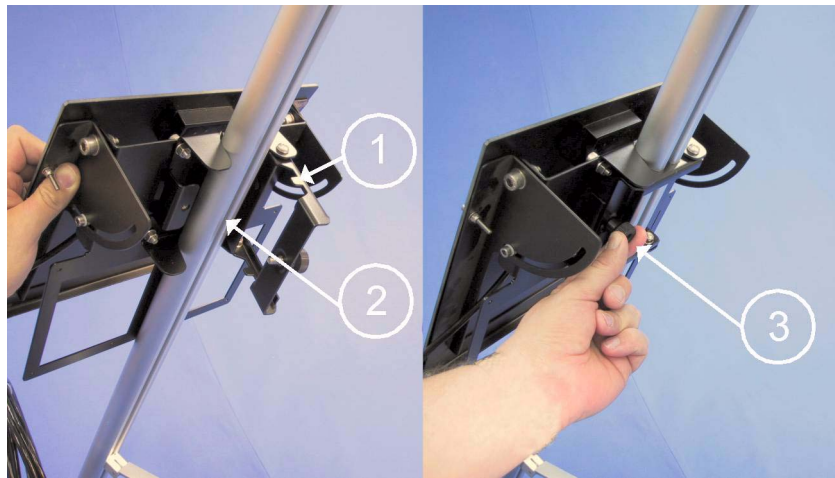

Figure 57 Solar Panel Fixture
2. Place the solar panel towards the leg approximately 40 cm (1.3 ft.) down from the upper plate of the tripod. Make sure that the shelf (number 1 in Figure 57 on page 72) fits to the leg profile (2). When the panel is at suitable height, tighten the hand screw (3).